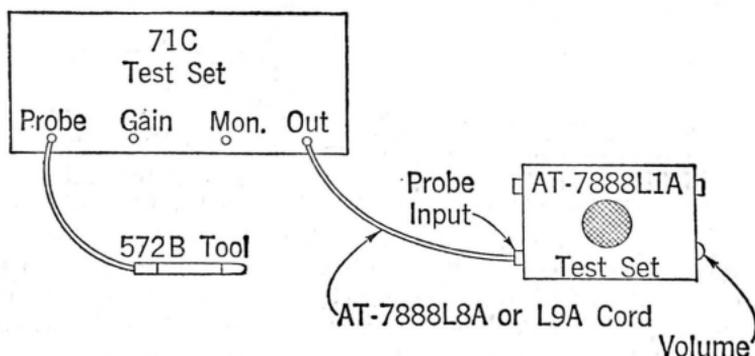

Fig. 2
4.01 **71-Type Test Set:** The method of using and the cord required for connecting the speaker set to a 71-type test set are shown in Fig. 2. In this application the speaker set is used independently of the talking circuit. The volume control should be adjusted to less than one-quarter turn from the OFF position. The desired signal strength should then be adjusted by the gain control in the 71-type set from the maximum counterclockwise position.